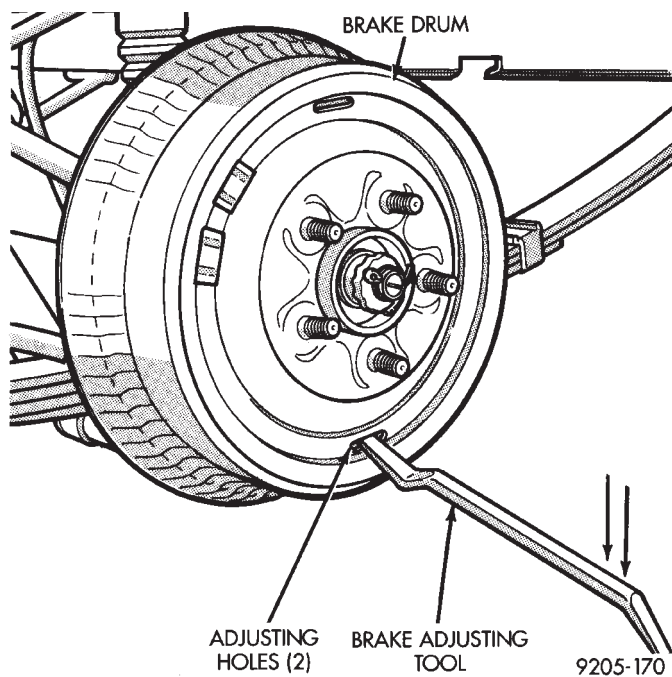

Fig. 4 Brake Shoe Adjustment
(5) Insert Brake Adjusting, Special Tool C-3784 (Fig. 4) or equivalent through the adjusting hole in brake drum and against star wheel of adjusting screw. Move adjusting tool in a downward motion until a slight drag is felt when brake drum is rotated.